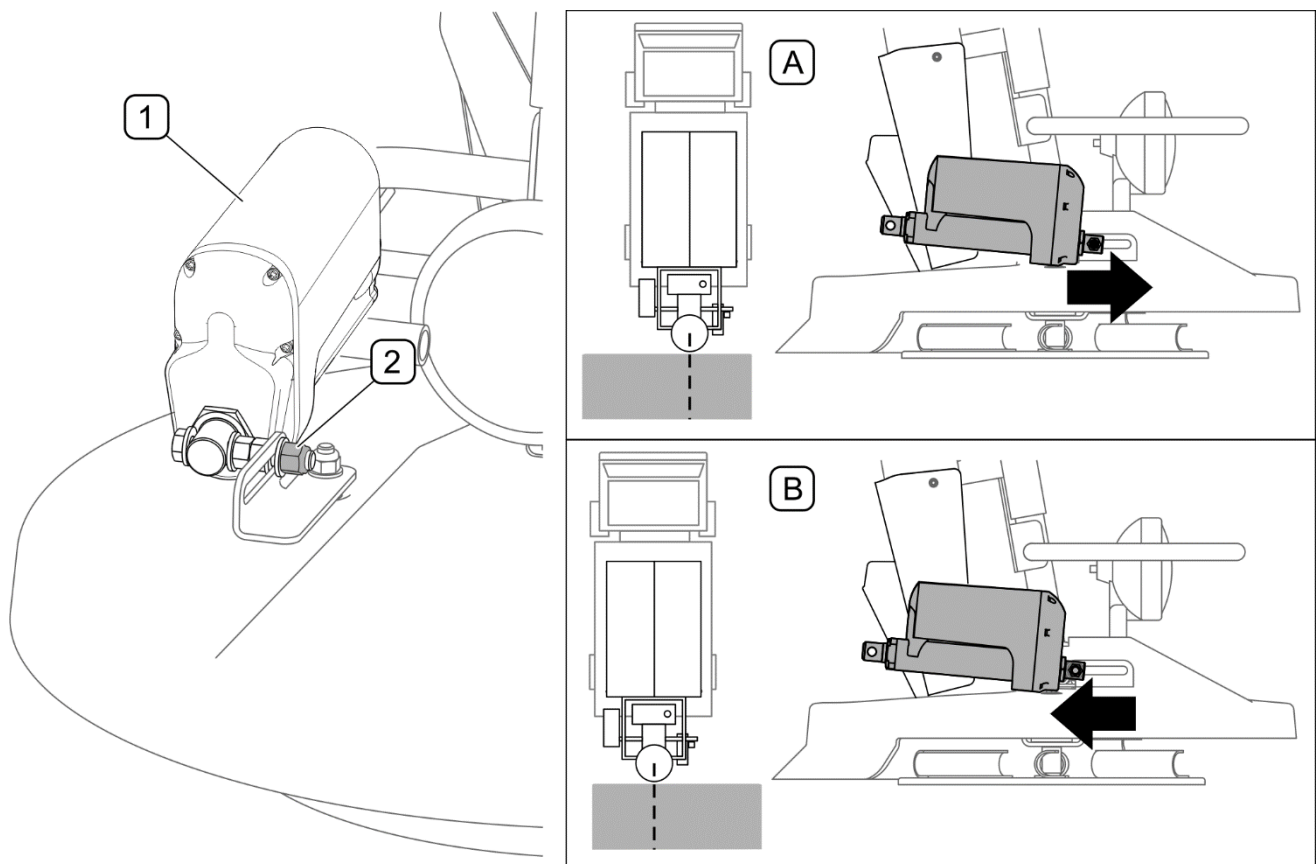

FIG. 5.9 Adjustment of spreading mechanism
In order to adjust the spreading mechanism, set symmetric 4 meter-wide spreading zone on the control panel. Activate spreading and drive a short distance at a constant speed. Stop the vehicle and check effect of spreading. If spreading to the right side and to the left side is not the same, adjust spreading direction adjusting cylinder (1) (FIG. 5.9) as follows:
- Loosen nut (2).
- Move cylinder (1) forwards if spreading zone is excessively shifted to the left (A).
- Move cylinder (1) backwards if spreading zone is excessively shifted to the right (B).
- Tighten nut (2), conduct test spreading, if necessary, repeat the adjustment.